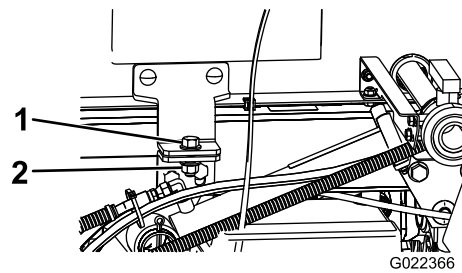

Figure 98
5. Remove the safety bolts from the front of the skid (Figure 98).